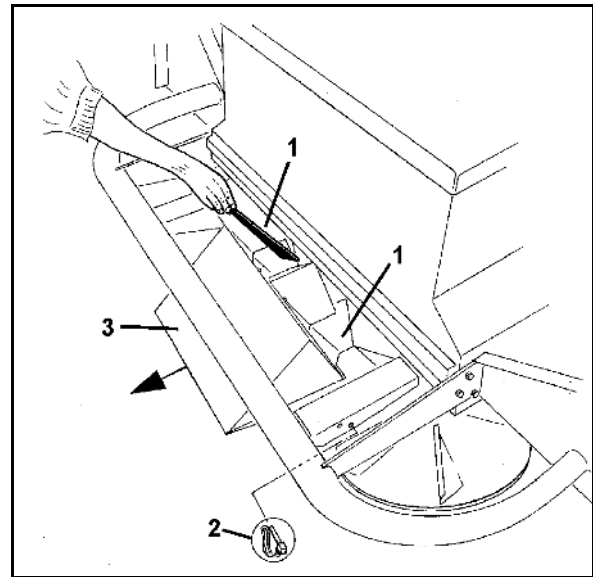

Fig. 103
Spreading material can build up inside the outlet openings (Fig. 103/1) of the guide chute to become too narrow to achieve a correct spread pattern. To achieve a correct spread pattern ensure that both outlets are clean. Therefore before every operation of the bulk spreader check or clean the outlets as follows
1. Remove guide chute. (Fig. 103/3).
2. Check or clean the outlet openings (Fig. 103/1).
3. Push guide chute back into position and affix by two clip pins (Fig. 103/2).